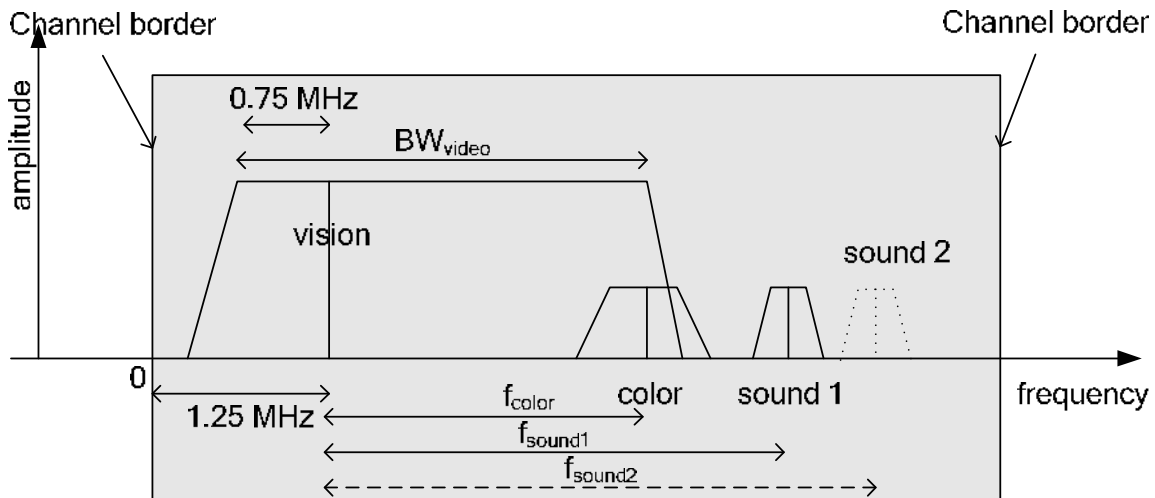

Fig. 2–32 Analog modulated signals in the RF range
For analog modulated TV signals based on PAL, SECAM, and NTSC, Fig. 2–32 shows the situation in principle: the components of the signal, and both frequency and level at the output of a TV transmitter (RF range).
- The vision carrier, indicated in Fig. 2–32 with "vision", is located 1.25 MHz above the channel start. The vision carrier has the highest level and mainly assesses the total power of the channel. It transmits the luminance information and is amplitude modulated. The amplitude modulation is mostly negative (the smaller the luminance signal the larger the vision carrier level), apart from SECAM/L (large vision carrier level combined with a large luminance signal). Only a part (around 0.75 MHz) of the lower sidebands of the vision carrier is transmitted. Therefore it is called "residual sideband modulation". The video bandwidth  $BW_{\text{video}}$  amounts to, depending on the standard, approx. 5 MHz (e.g. PAL B/G) or approx. 4 MHz (e.g. M/NTSC).
- The color carrier, indicated in Fig. 2–32 with "color", is shifted by  $f_{\text{color}}$  to a higher frequency value in respect to the vision carrier. The magnitude of  $f_{\text{color}}$  depends on the standard. The level of the color carrier is by far smaller than that of the vision carrier. Depending on the standard, the signal is analog quadrature amplitude modulated (e.g. PAL B/G) or frequency modulated (SECAM).
- One or two sound carriers, indicated in Fig. 2–32 with "sound 1" and "sound 2", are shifted by  $f_{\text{sound1}}$  or  $f_{\text{sound2}}$  to a higher frequency value in respect to the vision carrier. The magnitude of  $f_{\text{sound1}}$  or  $f_{\text{sound2}}$  depends on the standard. The level of the sound carriers is by far smaller than that of the vision carrier. Depending on the standard, the sound carriers are frequency, amplitude, or NICAM (digitally) modulated. The sound carriers do not need to possess the same modulation. For example, a combination of a frequency modulated carrier with a NICAM modulated carrier is possible.